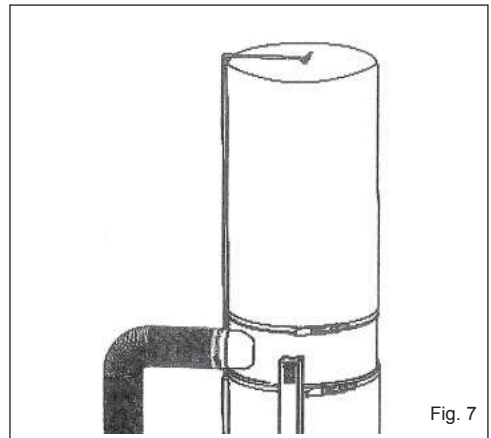

Fig. 7
6. Pass the closing strap through the dust upper bag's mouth that has a device for fixing it to the hook. Hang the bag on the hook. Place the open end of the filter bag on the drum's edge. Once done, adjust the closing strap so that the tensioner is in the closing system's teeth. Press the tensioner's handle to lock the bag in place. Make sure the closing strap is in the manifold's throat before locking the tensioner. Position the lower bag like the upper bag but from the manifold's lower part without suspending it (**Fig. 7**).